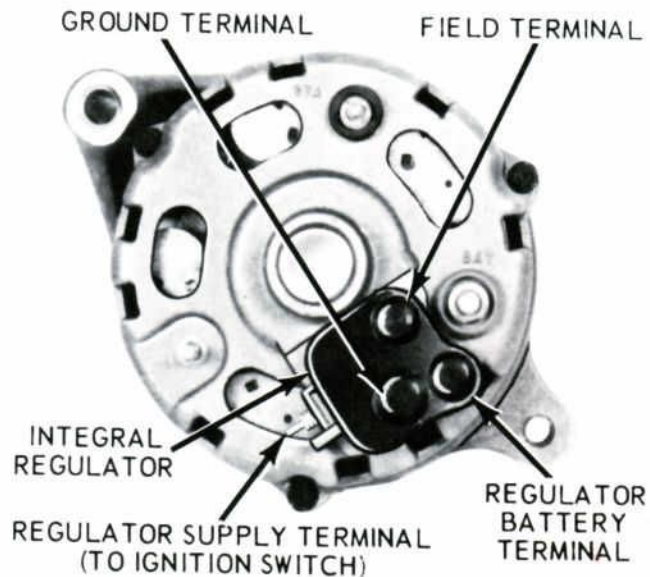

Figure 1-Alternator With Integral Regulator
1969 Thunderbird and Continental Mark III models use a new regulator that attaches integrally to the rear of the alternator. The integral regulator (Fig. 1) consists of solid state devices (transistors, diodes and resistors) fabricated within a single piece of silicon crystal, measuring about 1/8-inch square, to form integrated circuits (IC). Very small aluminum conductors interconnect each circuit. The regulator is completely sealed in a moulded plastic case. When the regulator is mounted to the alternator, the electrical connections are made. However, since the integral regulator is sealed in plastic, it can not be repaired or adjusted. It must be replaced if it does not produce 13.5 volts to 15.3 volts between 50° F. and 125° F.
3. Remove the terminal covers from the regulator (Fig 1), and remove the nuts from the alternator studs.